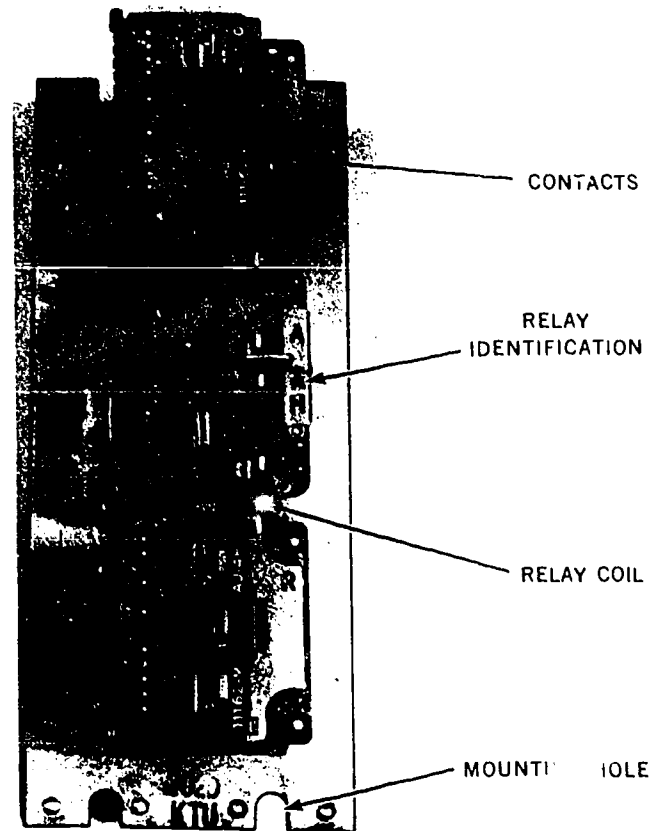
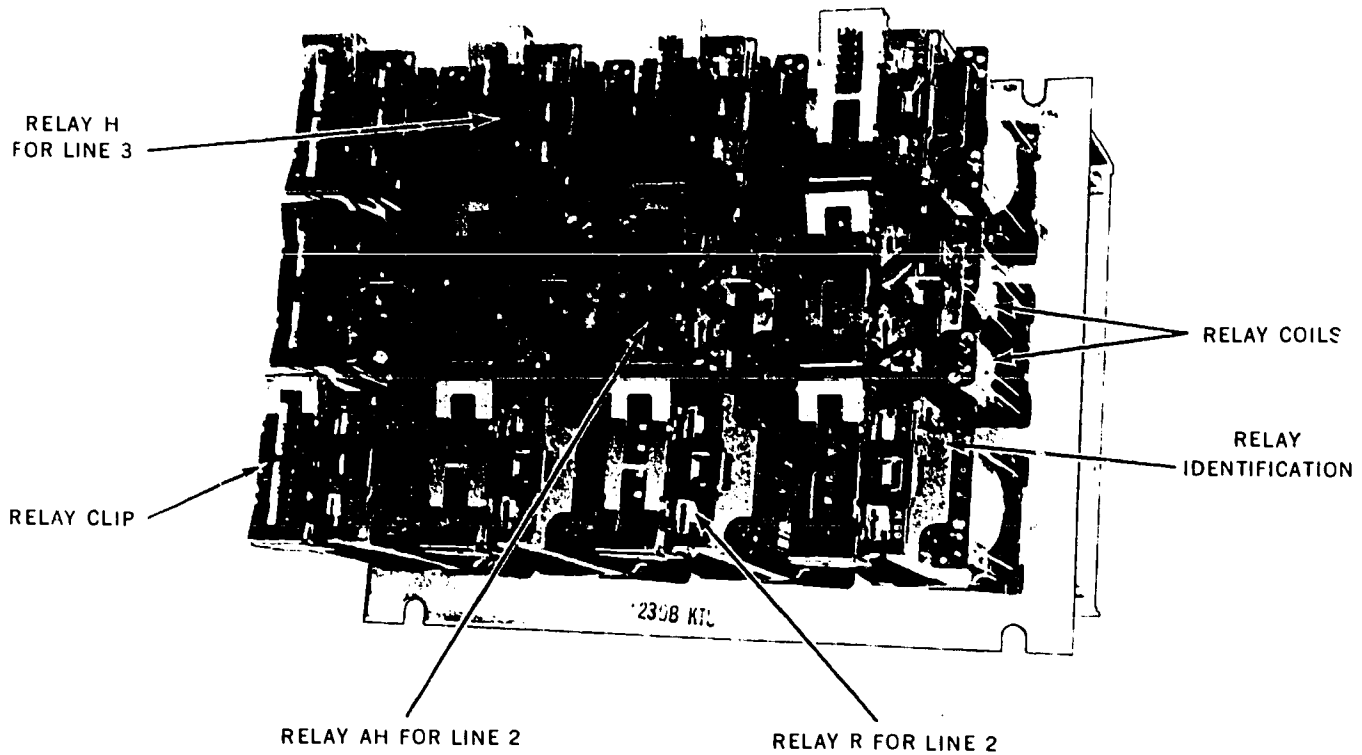

Figure 1-2. 202D line unit.
Figure 1-3. 230B combined CO or PBX line unit.
Central office or PBX line unit. This KTU provides equipment for one line. It consists of connecting terminals, relays, rectifying devices, capacitors, and resistive devices (resistors, thermistors, or varistors) (fig. 1-2) which provide pickup, hold, power failure, and visual supervision on central office or PBX lines. Refer to figure 1-2. (NOTE:
Combined CO or PBX line unit. The apparatus of this KTU includes equipment for more than one line. The exact number of lines is dependent on the particular unit. The components are exactly like those of the 202D, but multiplied. The 230B KTU shown in figure 1-3 provides four lines identical to the 202D shown in figure 1-2.
1. Compare the line units of text figures 1-2 and 1-7 and identify a difference to be noted.